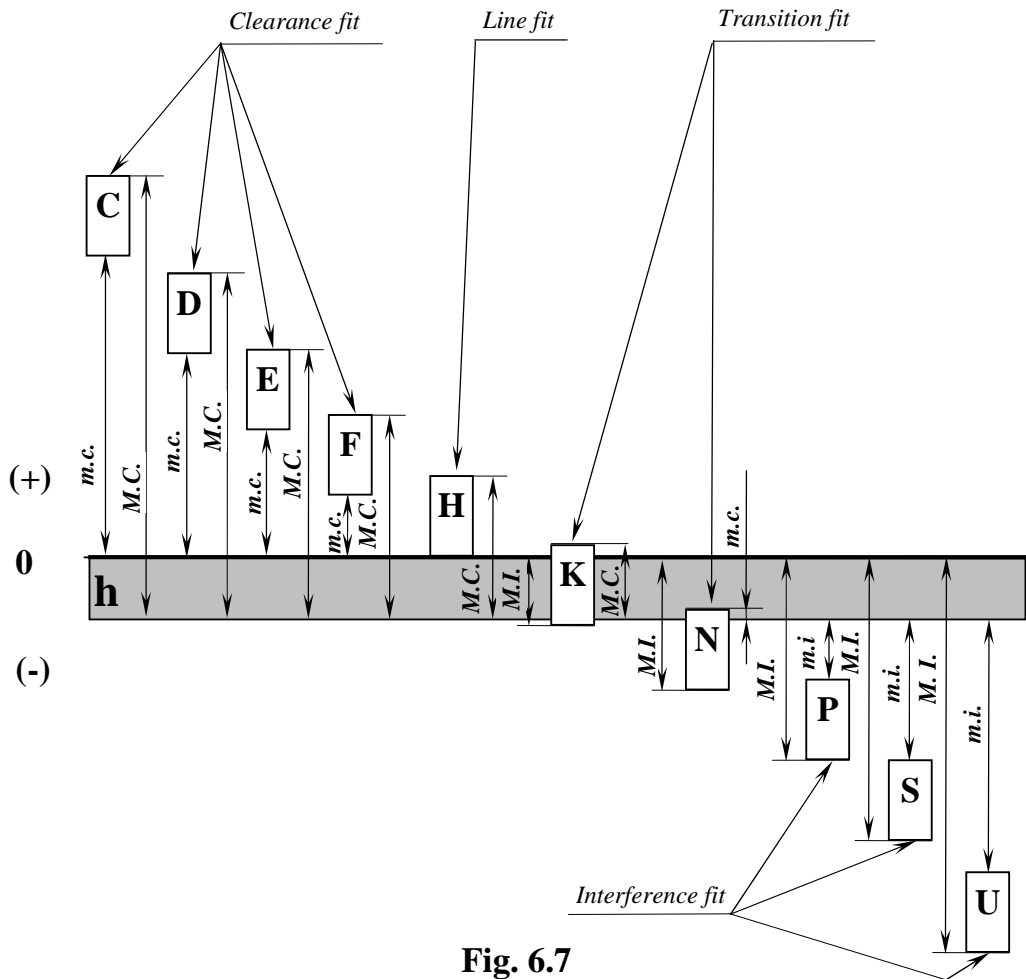

Fig. 6.7
- **Basic Shaft System** – is a system of fits in which the allowance is applied only to the *hole* and the *shaft is in the basic size*, that means (Fig. 6.7), the maximum size of the shaft is taken as a base from which all variations are made (allowance 0).